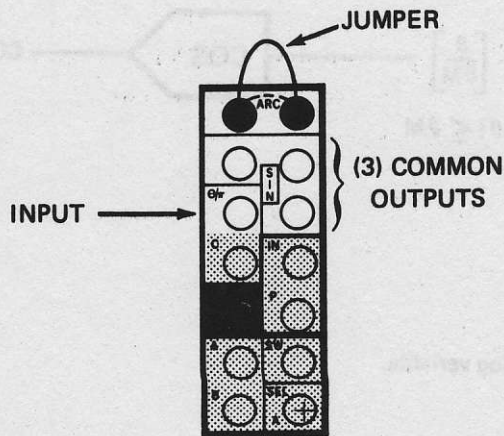

Figure 4.31 Arcsine Generator: Program Panel Terminations
The Trigonometric Function Generator is included in the SIN/Σ tray. The Arcsine Program Panel Terminations are illustrated in Figure 4.31.
1. The ARCSINE Generator is based on the Sine Generator. The control jumper (Figure 4.31) effects an integral configuration change so that the inverse of the Sine Function is generated.